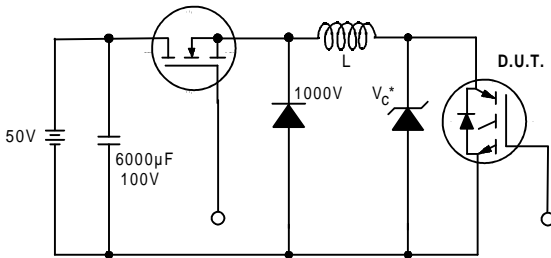

Figure 19. Clamped Inductive Load Test Circuit
- ② $V_{CC}=80\% (V_{CES})$, $V_{GE}=20V$, $I_L=10\mu H$, $R_G = 23\Omega$ (figure 19)
- ③ Pulse width $\leq 80\mu s$; duty factor $\leq 0.1\%$.
- ④ Pulse width $5.0\mu s$, single shot.
- ⑤ $t = 60s$, $f = 60Hz$